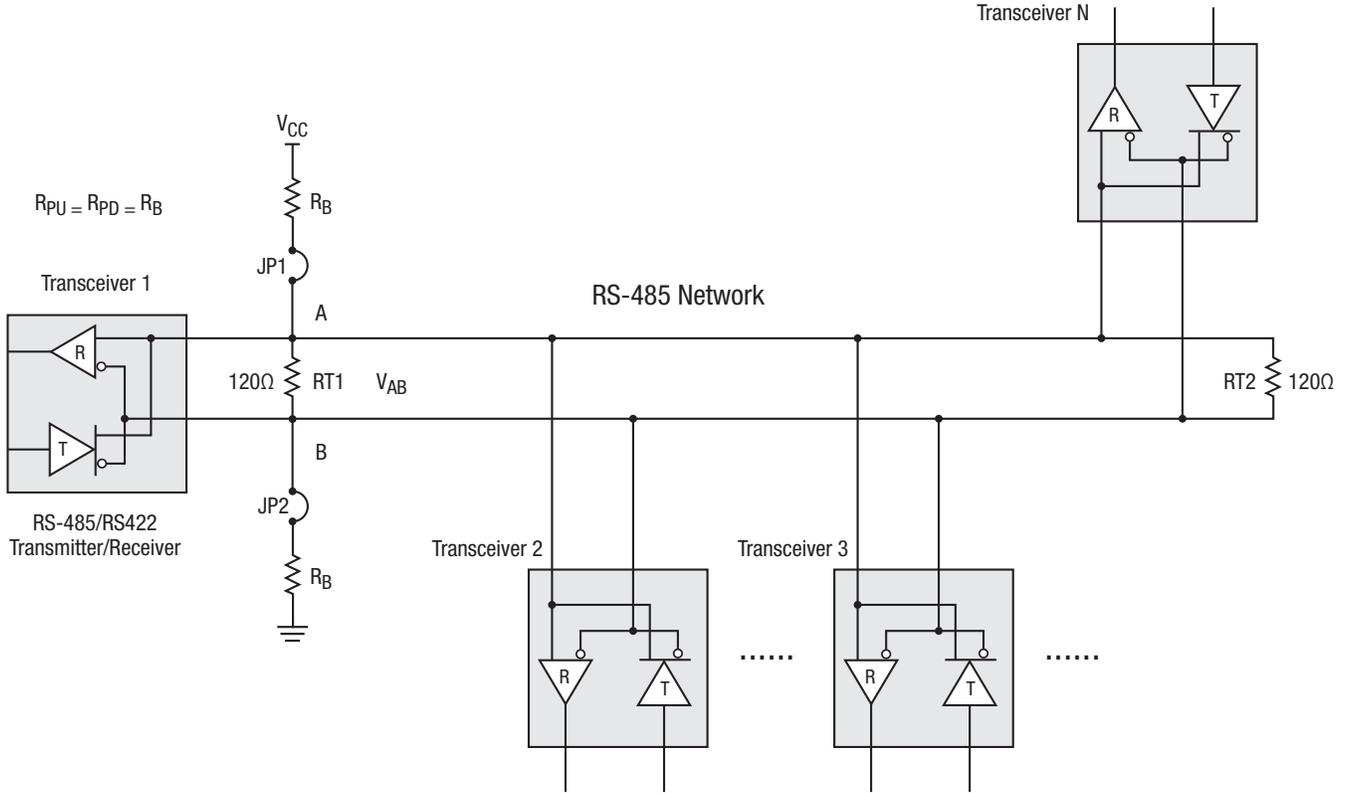
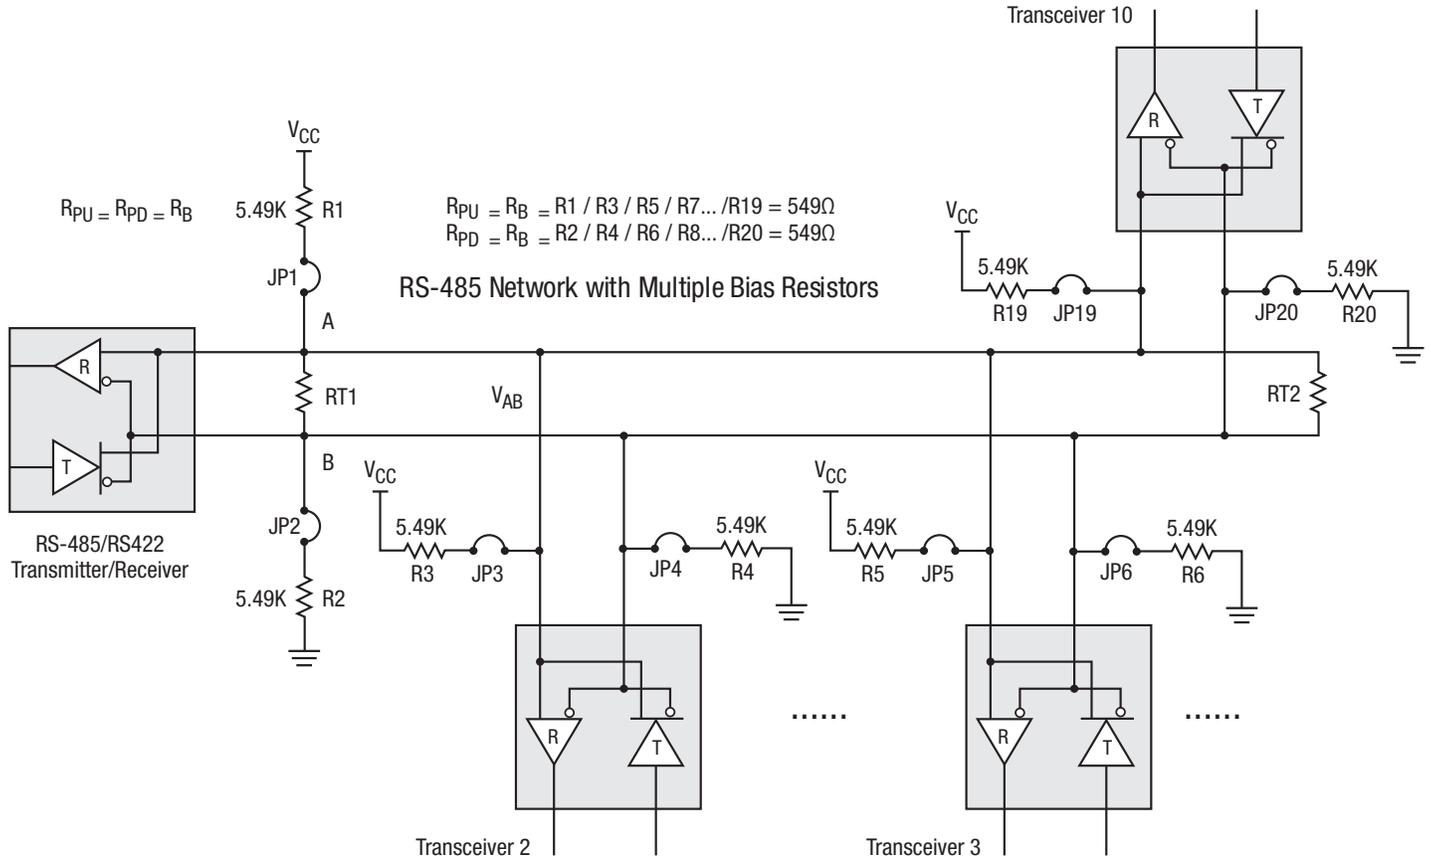

Figure 10: SP339 and XR34350 in RS-485 Mode with Other Transceivers
Figure 12: Network with Multiples Pull-up and Pull-down Bias Resistors
Figure 10 shows an equivalent RS-485 distributed network with multiple standard failsafe transceivers. In order to force
As observed from Figure 10, failsafe biasing is adding additional load to the RS-485 network. The maximum number of devices on the network can be calculated from Equation (3).
As observed in Figure 12, it is rather complicated to implement the network with multiple pull-up/pull-down resistors. The best method is to have one bias resistors network as shown previously in Figure 10 (with only JP1 and JP2 installed, $R_B = 549\Omega$, and $R_{T1} = R_{T2} = 120\Omega$, all others jumpers and resistors should be removed).